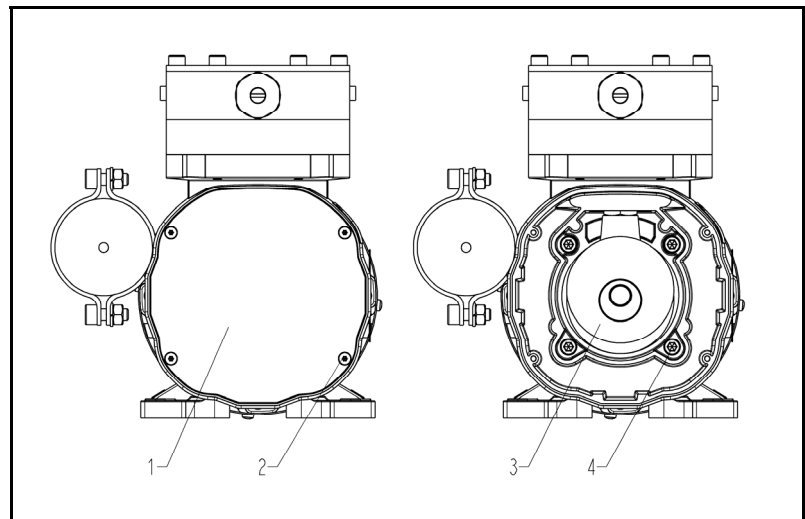

Fig. 7:
1. Undo and remove the four Allen screws (Fig. 7/2) from the housing cover (Fig. 7/1).
2. Remove the housing cover (Fig. 7/1)
i The eccentric crank assembly (Fig. 7/3) and the four motor mounting screws (Fig. 7/4) are visible.
3. Undo and remove the four motor mounting screws (Fig. 7/4).
5. Reinsert and tighten the four motor mounting screws (Fig. 7/4) (tightening torque: 6 Nm)
6. Replace the housing cover (Fig. 7/1) and tighten with the four Allen screws (Fig. 7/2) (tightening torque: 15 Ncm).